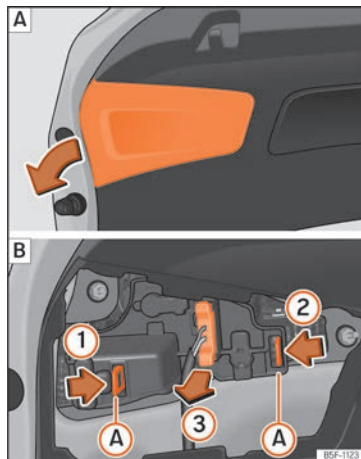

Fig. 65 Remove the cover from the boot lid and detach the bulb holder.
- Remove the rear lid cover in the direction indicated »» Fig. 65 [A].
- Unlock the retaining tabs (A) of the bulb holder, following the direction of arrows ① and ② »» Fig. 65 [B].
- Remove the bulb holder, moving it in the direction of arrow ③ »» Fig. 65 [B].
- Reinstall the bulb holder, making sure that locking clips (A) »» Fig. 65 [B] are properly clipped on.